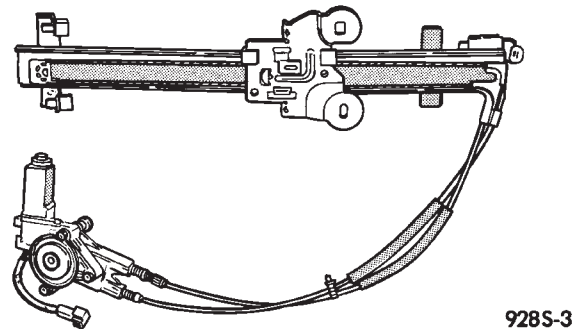

Fig. 15 Cable and Housing/Motor
(1) Remove front door trim panel. Refer to group 23, Body.
(2) Disconnect window lift plate from glass (Fig. 15).